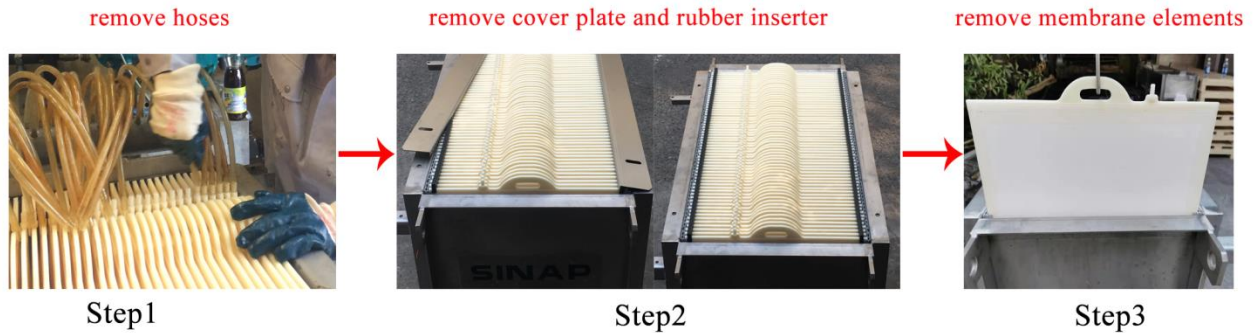

Figure 5 Remove membrane elements
4) Remove the hoses (manifold side can be remain connected), remove the stainless steel cover plate at the top of the membrane case, and remove the rubber inserter; Remove the membrane elements piece by piece with a professional hook tool (take care not to damage the membrane surface) as shown in figure 5.